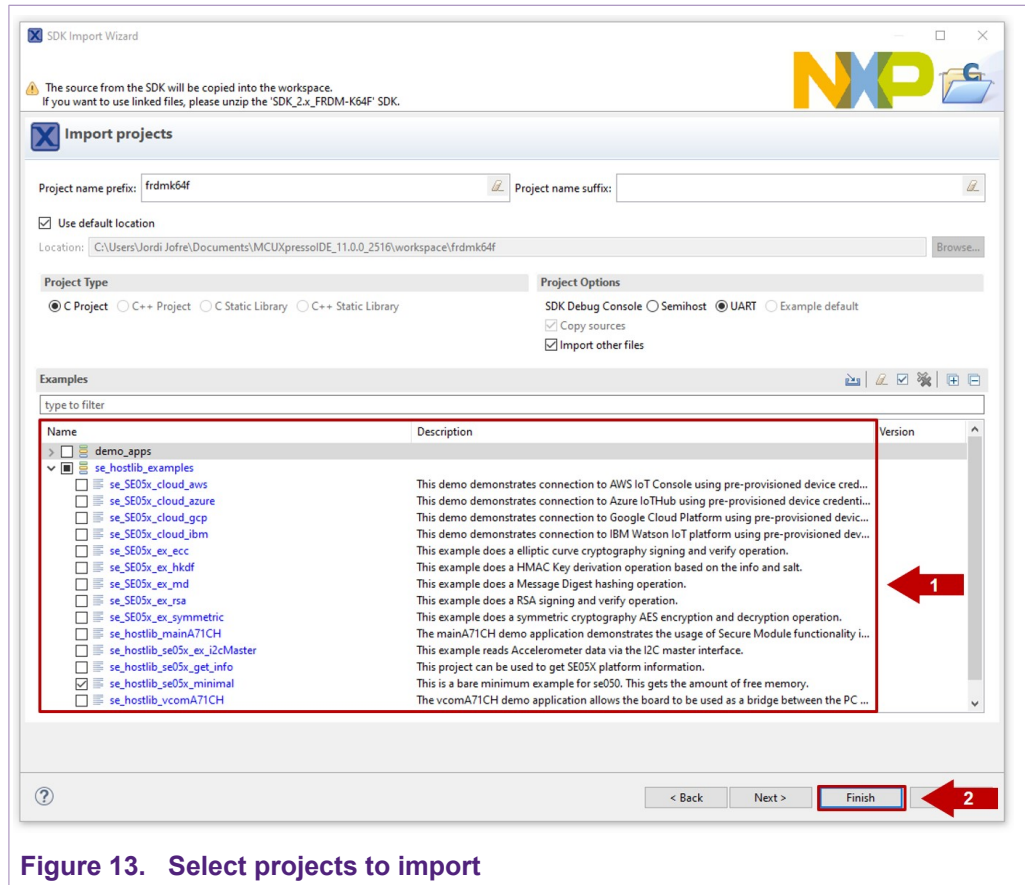

Figure 13. Select projects to import
- Under the `se_hostlib_examples` drop down list, you have the list of supported project examples for the FRDM-K64F. Select the number of examples you would like to import in your MCUXpresso workspace and click *Finish* button as shown in Figure 13. In this case, we select the `se_hostlib_se05x_minimal` project as an example. The same process can be done with the rest of them.